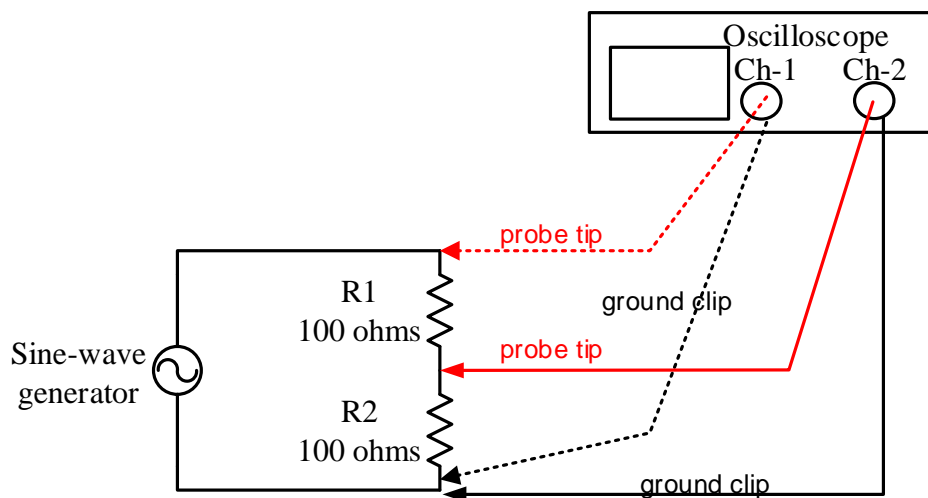

Figure 4-6: A circuit for measuring phase shifts.
1. Make sure that the generator is off. Connect the circuit of Figure 4-6. Channel 1 is connected to the output of the generator. Select channel 1 as the trigger source. Channel 2 is connected across resistor R2.²
1. Replace R1 in Figure 4-6 by the inductor.
1. Replace R1 in Figure 4-6 by a 0.47- μF capacitor.